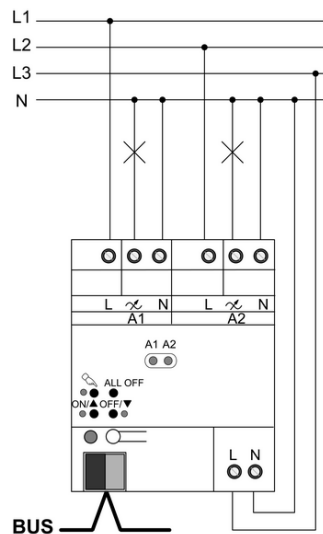

Figure 4: Dimmer actuator – Connection example
- Connect device as shown in the connection example (figure 4).